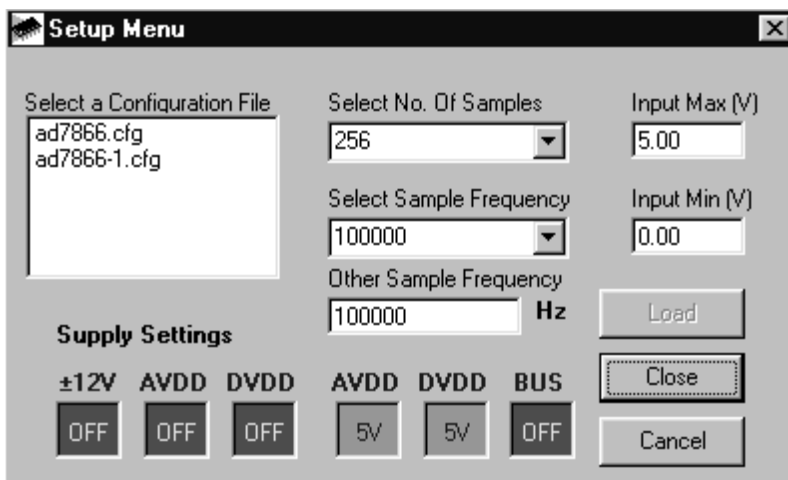

Figure 4. The Setup Screen
The Setup Screen is responsible for allowing the user to load the required configuration file for the evaluation board. There are two configuration files associated with this part. When either is loaded, the software will acquire detailed information about the evaluation board and part connected to the Evaluation Board Controller such as number of bits, maximum sampling rate, output coding, maximum analog input, power supply requirements etc. The configuration files also tell the software the name of the DSP program file which it should download to the Evaluation Board Controller. The file "AD7866.cfg" should be loaded if the analog input range is 0 to  $V_{REF}$  and the output coding is binary and the file "AD7866-1.cfg" should be loaded if the analog input range is 0 to  $2 \cdot V_{REF}$  and the output coding is 2's complement. These files are supplied by Analog Devices with the evaluation board. Figure 4 shows the Setup Screen.
**Setup Menu:** Selecting this option displays the Setup Screen as shown in Figure 4.